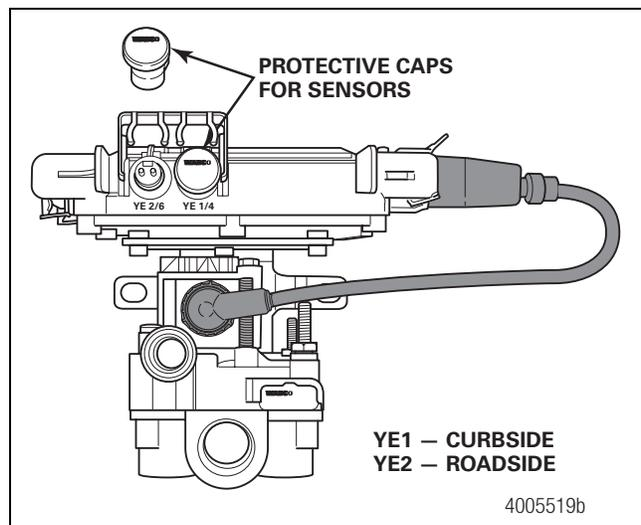

**Figure 5**
- Connect the sensor and cables on the prepped axles to the sensor extension cables. Figure 5.
- Route the sensor cable along the back side of the trailer axle to the ECU/single modulator valve assembly. Route the cable with the brake hose. Figure 5.